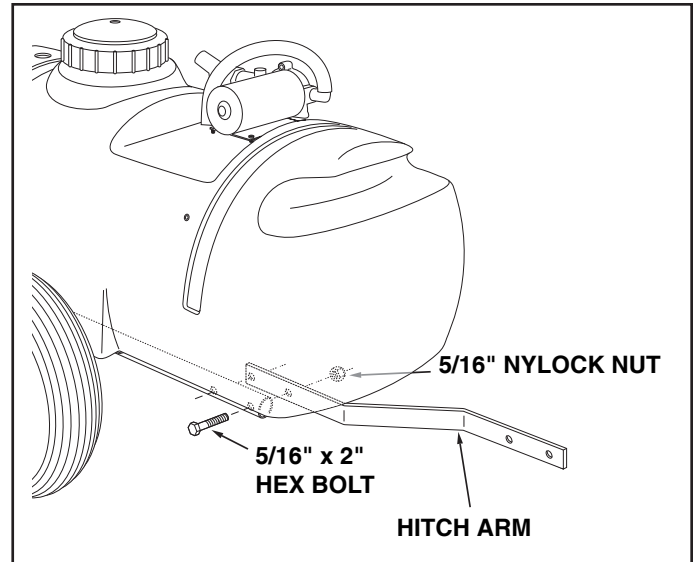
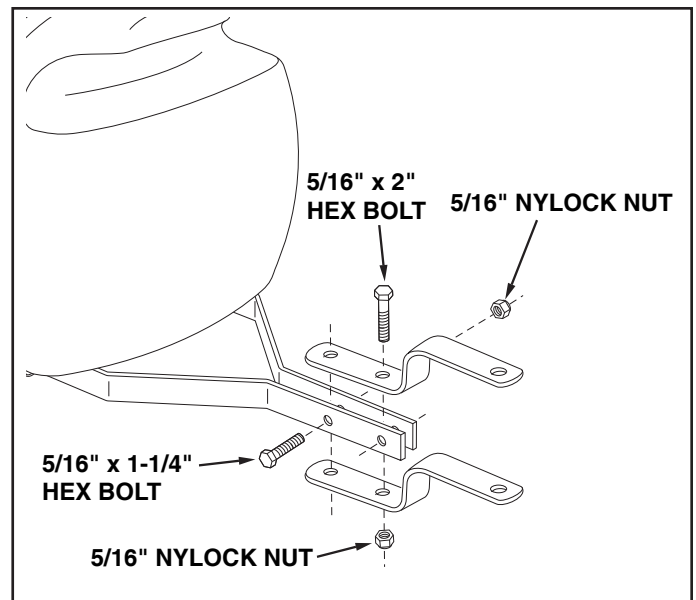

FIGURE 3
FIGURE 4
6. Assemble a hitch arm to the inside of a frame tube underneath the tank. Use two 5/16" x 2" hex bolts and 5/16" nylock nuts as shown in figure 3. **Do not tighten yet.** Repeat for other side.
7. Fasten the ends of the hitch arms together using two 5/16" x 1-1/4" hex bolts and 5/16" nylock nuts. **Do not tighten yet.** See figure 4.
8. Assemble the hitch brackets to the hitch arms using two 5/16" x 2" hex bolts and 5/16" nylock nuts. Position each bolt behind a cross bolt in the hitch arms. **Do not tighten yet.** See figure 4.
9. **Tighten all bolts** starting with the bolts in figure 3, then the bolts in figure 4.